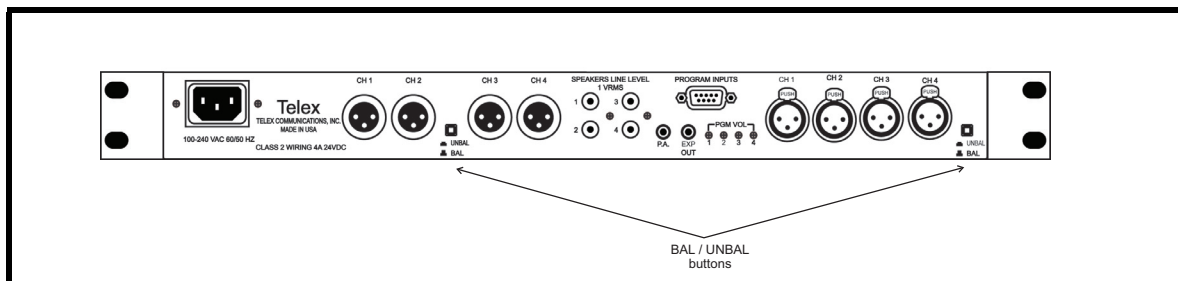

Figure 2. MS-4002 Back Panel Balanced and Unbalanced Operation Switches
NOTE: There are two (2) switches on the MS-4002 unit that control the Balanced/Unbalanced operation. You must set both of these switches in the same position for proper operation, see Figure 2.